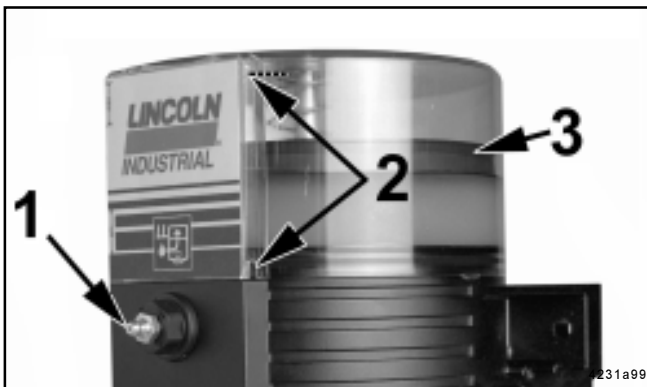

Fig. 18 - Fill reservoir up to the „Max.“ mark (QLS 301)
* Fill the reservoir up to the „Max.“ mark via the filling nipple (1) (Fig. 18).